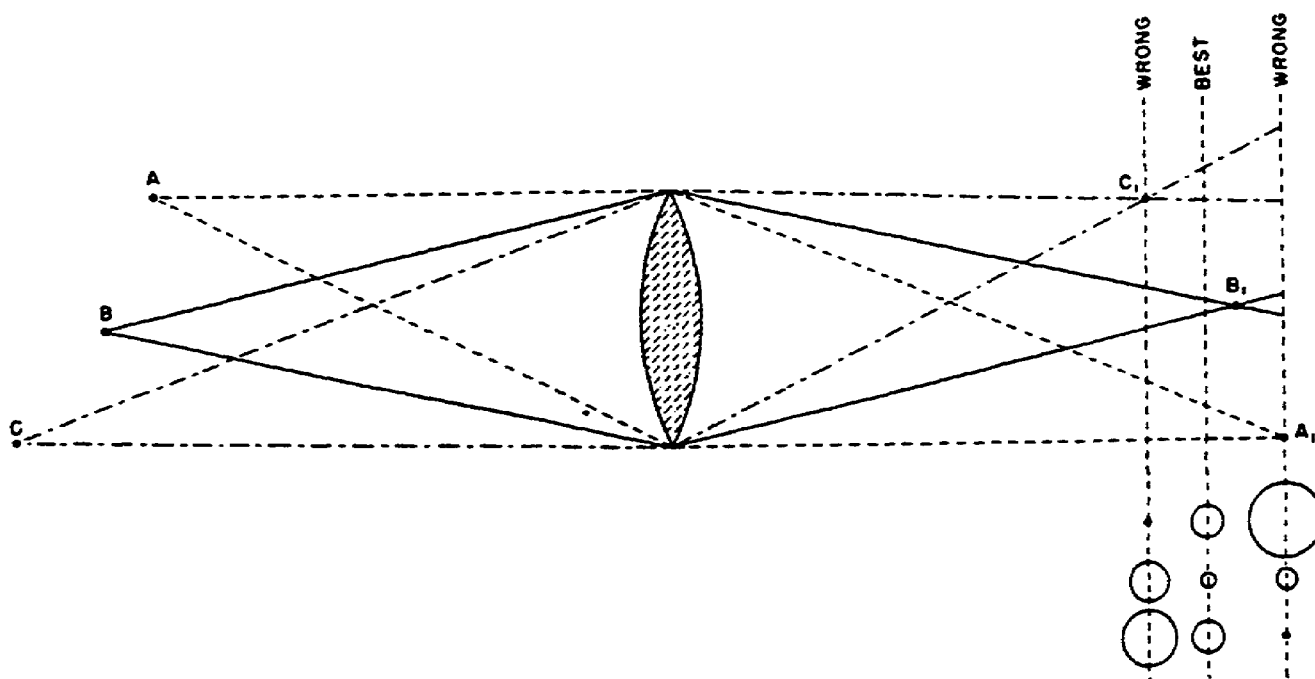

Figure 2-26. Focusing one-third of the distance.
2-18. FOCUSING LENS ON SEVERAL OBJECTS. When you are focusing a lens on several objects that are at different distances from the lens, you must effect a compromise. You usually obtain the best results by focusing on a point one-third ( $1/3$ ) of the distance between the nearest (C) and farthest (A) point of focus, (fig 2-26).